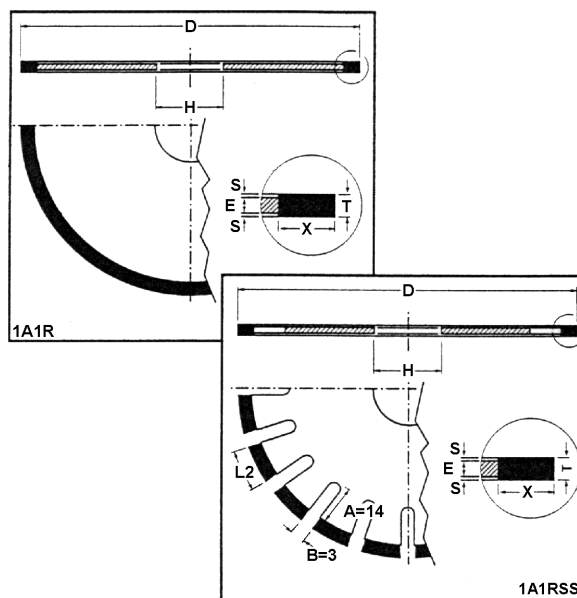

Fig. 1 : Differences between continuous rim and segmented discs.
The difference in thickness between the diamond layer and the metal body (fig. 1) is called "protrusion" (S) and will regulate the cutting results obtained. If it is too small, there may be contact between the metal sheet and the sawn part, which will cause chipping on it as well as heating and stress-relieving of the metal sheet, putting the disc out of use. The protrusion must also be sufficient so that, given the lateral wear of the disc, it can be used completely.